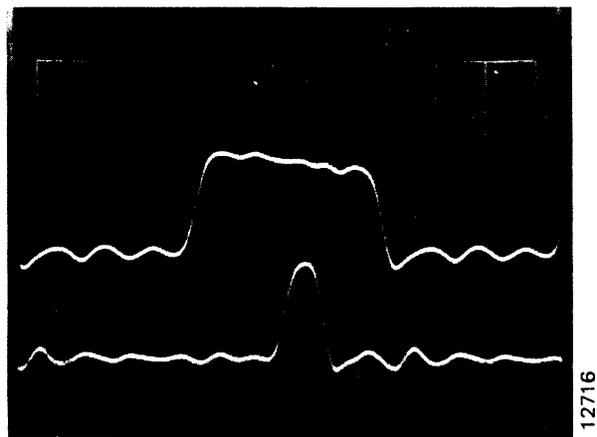

Figure 4-5. Skew One-Shot Adjustment Waveform
12. Increase the scope sweep rate to 20 nanoseconds per division, and center the Channel 1 positive half cycle at the 50-percent amplitude points. See Figure 4-5. Fine adjust potentiometer R16 to position the leading edge of the Channel 2 pulse exactly center of the Channel 1 half cycle at its 50-percent amplitude point.